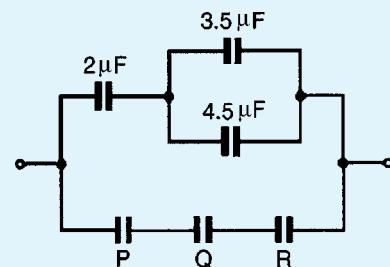

Figure 6.12
9. In Fig. 6.12 capacitors  $P, Q$  and  $R$  are identical and the total equivalent capacitance of the circuit is  $3\ \mu\text{F}$ . Determine the values of  $P, Q$  and  $R$